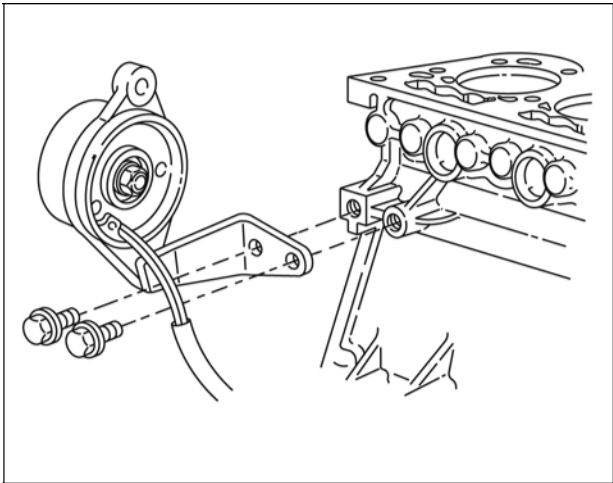

Figure 2
- 5. Remove alternator bracket and alternator (Figure 2).